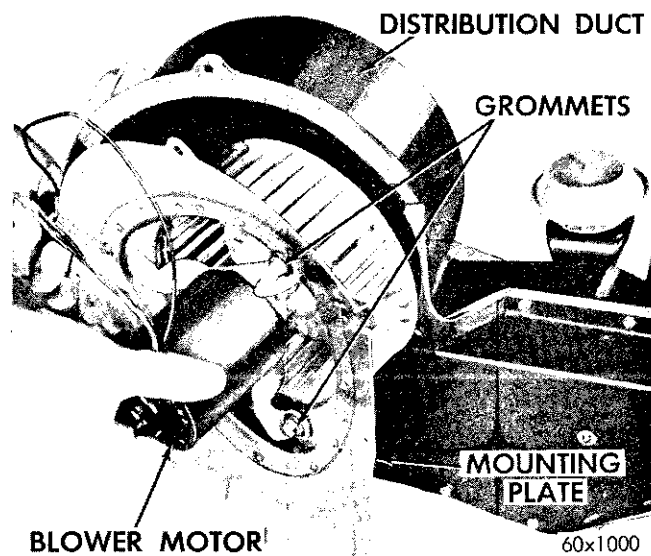

Fig. 66—Blower Removal or Installation
(1) Disconnect the battery ground cable.
(2) Disconnect the heater ground wire at windshield wiper motor mounting bracket and disconnect blower and clutch circuit wires from the harness connectors.
(3) Disconnect the vacuum hoses and actuator rods from each vacuum unit. Remove hoses from their attaching clips.
(4) Disconnect the distribution duct damper control cable.
(5) Remove temperature control valve capillary from the engine-side housing.
(6) Remove the three screws attaching the distribution duct to the dash panel (one is located to the left of the recirculating door and to the right of brake pedal bracket; one below the floor outlet at passenger side, and one screw is located at the windshield wiper motor right link pivot).
(7) Remove the housing and blower by pulling down and out of driver's compartment. Remove the blower, mounting plate and motor. (See Fig. 66.)